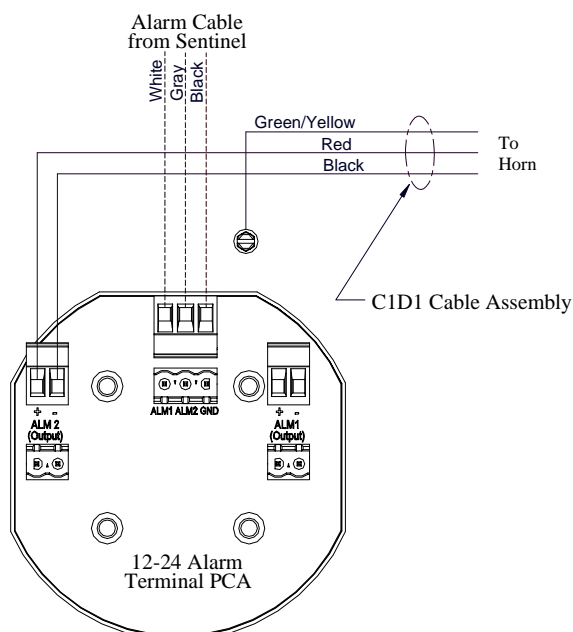

Figure 14 A1 C1D2 Alarm Connections
- a. The horn should be wired to the 'Wet' Alarm Output cable per Figure 14.